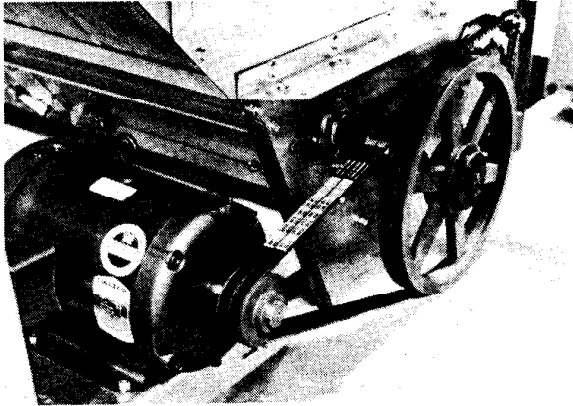

FIG. 16
10. Inspect the top auger and bottom auger drive lines for proper adjustment and condition. Readjust line tension, as required. See Figures 16.